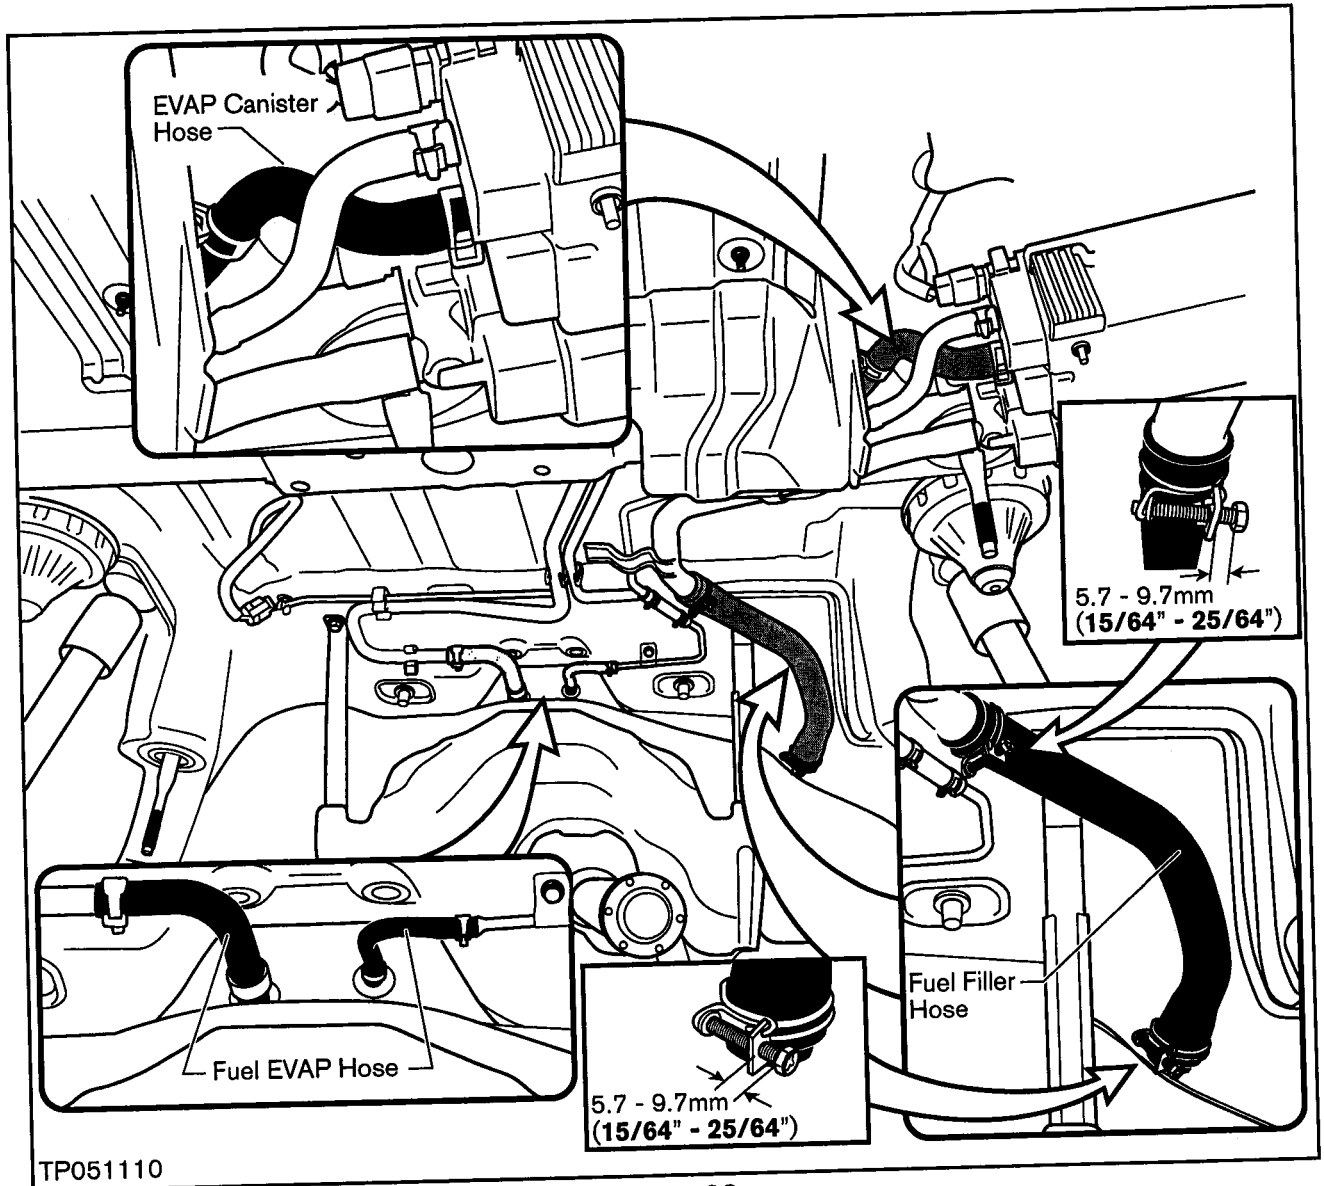

Figure 38
1. Remove and replace the four fuel hoses (provided in the kit). See Figure 38.
- Tighten the fuel filler hose clamps so that the distance between the bolt head and metal plate is set to the proper dimension (see Figure 38).